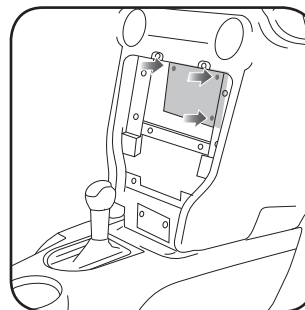

Fig. 1.8
10. Remove three (3) 7mm screws holding the Sync module and remove it (if applicable). (Fig. 1.8)